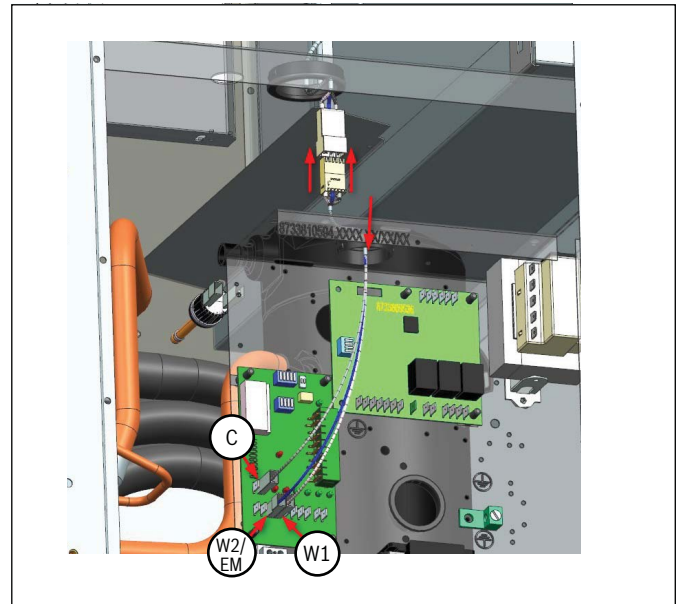

Figure 38
8. Continuing with the EH wiring harness, take the loose white, blue and grey wires (W1 and W2 and C), and feed them through the same hole into the unit control box. Connect wires labeled W1, W2/EM and C to respective terminals on the Thermostat Terminal Block of the ECM board shown in figure 38 below. Make sure the wire W2 is plugged into the EM port.